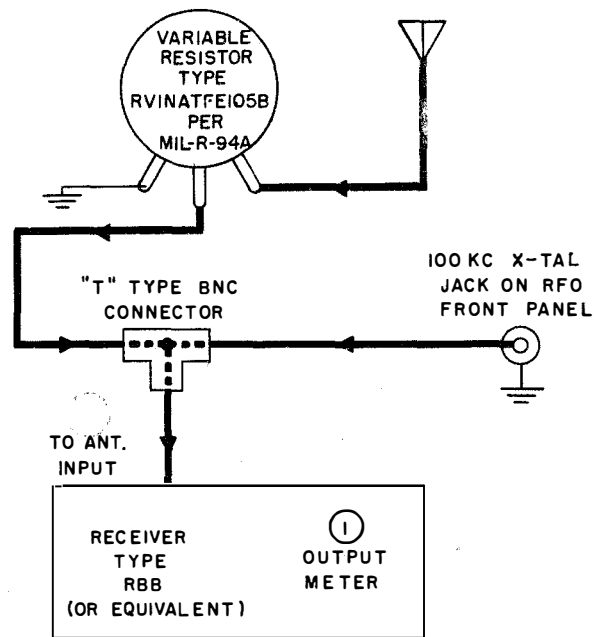
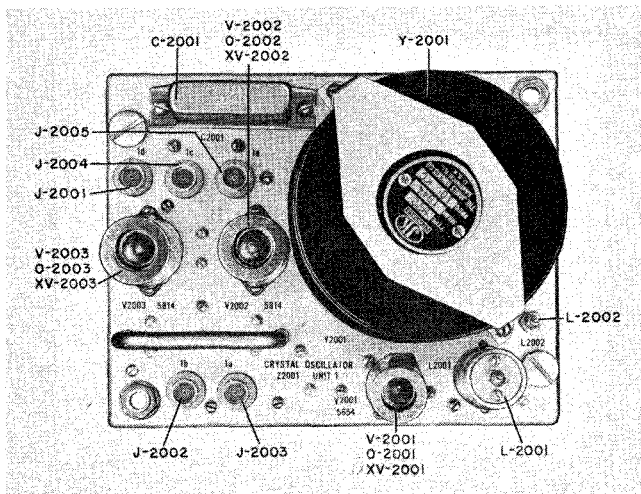

Figure 7-13. RFO Frequency Check, Test Setup
Figure 7-12. RFO, Unit 1 (Z-2001), Top View
If the oscillator tube V-2001 (5654) is operating, tube V-2002A (5814) is probably at fault. If tube V-2001 (5654) is not operating, check the tube and circuit (using the voltage and resistance chart, figure 7-11) and replace the defective component. Figure 7-123 is the schematic and figure 7-124 is the wiring diagram. Components in unit 1 are identified in figures 7-12 and 7-14.
(1) ELECTRICAL ADJUSTMENTS.—Only one adjustment should be made on unit 1. The top slug of inductance L-2001 (figure 7-12) should be adjusted when the output frequency of unit 1 is not 100 kc and whenever tube V-2001 (5654) is replaced.
Step 4. Connect a coaxial cable from 100 KC X-TAL jack on RFO front panel to the "T" type BNC connector (see figure 7-13) and terminate connector to the receiver antenna input.
Step 6. Connect the ship's receiving antenna with a variable resistor type RVINATFE105B per MIL-R-94A or equivalent in series, to the type "T" connector as shown in figure 7-13.
Step 8. With connections made as indicated in figure 7-13, adjust L-2001 on unit 1 (Z-2001) of the RFO, for a zero beat indication. L-2001, on unit 1, is accessible by extending the RFO drawer all the way out and cheating the RFO interlock. Refer to figure 7-12 for location of L-2001.